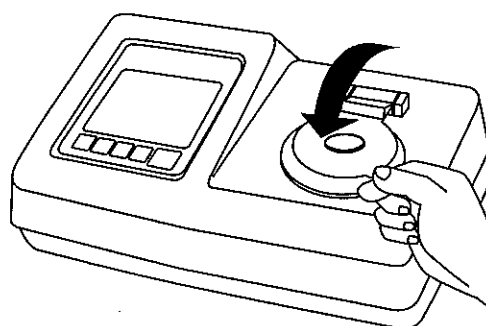

Fig.12-20
- Close the cover plate calmly. (Fig. 12-20)